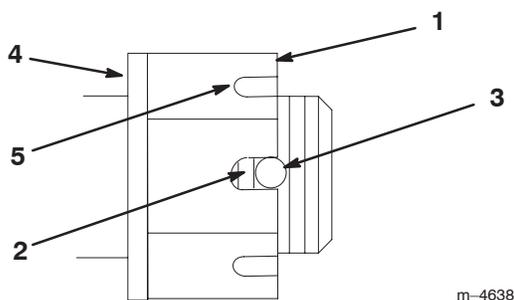

Figure 49
- Torque the slotted nut to 125 ft-lb (170 N·m) (Fig. 49).
Note: No more than 2 threads should be showing (Fig. 49).
- If more than 2 threads are showing, remove the nut and install a washer between the hub and nut (Fig. 49).
- Tighten the nut until the next set of slots line up with the hole in the shaft (Fig. 49).